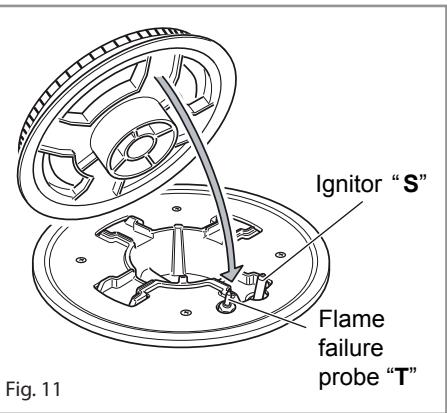
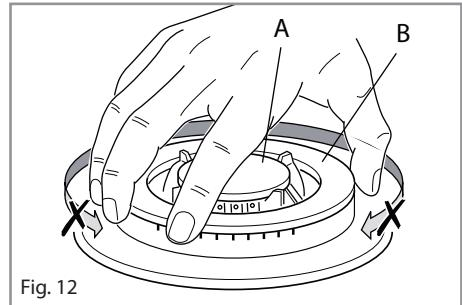

Fig. 11
Fig. 12
- The triple ring burner must be correctly positioned (see fig. 11); the burner ribs must be fitted in their housing as shown by the arrow. The burner correctly positioned must not rotate (fig. 12).
- Then position the cap "A" and the ring "B" (figs. 12 and 13). They shall be level.